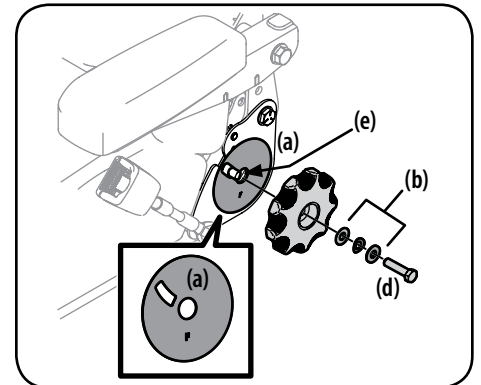

Figure 2-11
- Remove the seat tilt knob assembly from the bag and install as shown in Figure 2-11.
NOTE: Be sure to orient the recliner bearing plate (a) and install the washers (b) as shown in Figure 2-11. The thicker washer is on the outside.